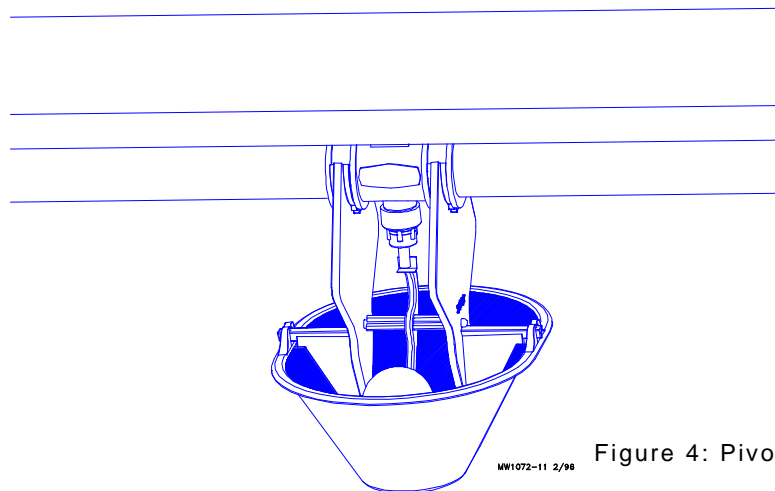

Figure 4: Pivot Arm installation
4. Install the Pivot Arm/Float Ball assembly between the Mounting Brackets, as shown in Figure 4.